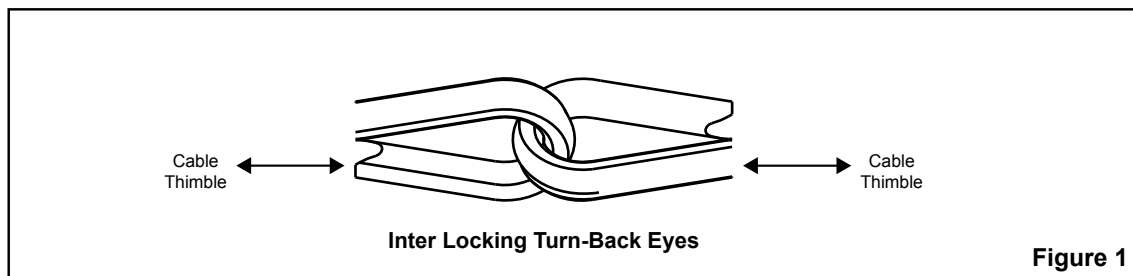

Figure 1
- STEP 1. Slide thimbles together as shown in (Figure 1) below.